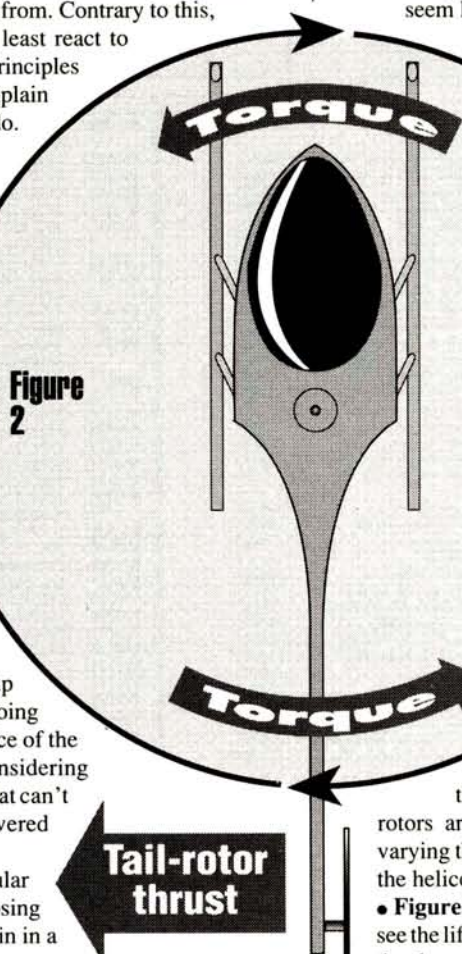

Figure 2
- **Figure 2** is a top view of the helicopter.